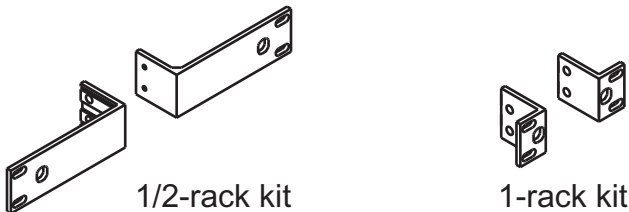

Fig. 6
2. Receiver Rack-Mount Kits, Fig. 6.